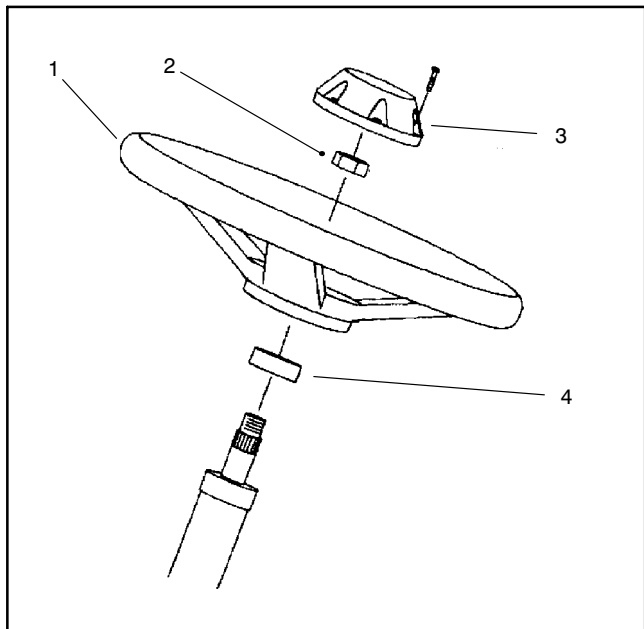

Figure 14
2. Remove the lock nut that secures the steering wheel to the shaft. Pull the steering wheel and foam seal off the steering valve shaft (Fig. 14).
2. Slide the foam seal and the steering wheel onto the steering shaft and secure the steering wheel in place with the lock nut (Fig. 14). Tighten the nut from 20 to 26 ft-lbs. (28 to 35 Nm).